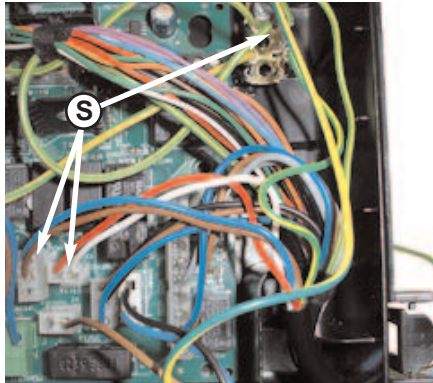

Fig. 18.66
3. Remove the pump plug from the control board and earth plug from earth socket "S" (see Fig. 18.66);